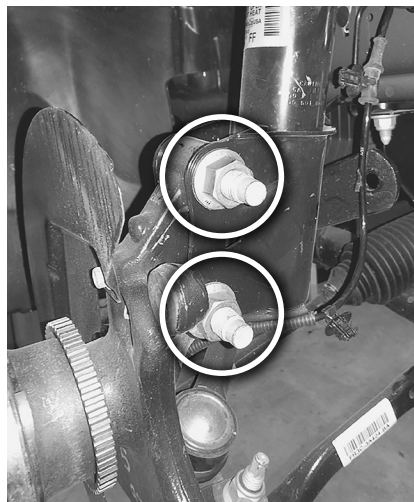

Fig. 10
4. Remove the two lower strut nuts and use a hammer to remove the bolts while taking care not to damage the threads (Fig. 10). Support the knuckle to prevent damage to the lower ball joint.